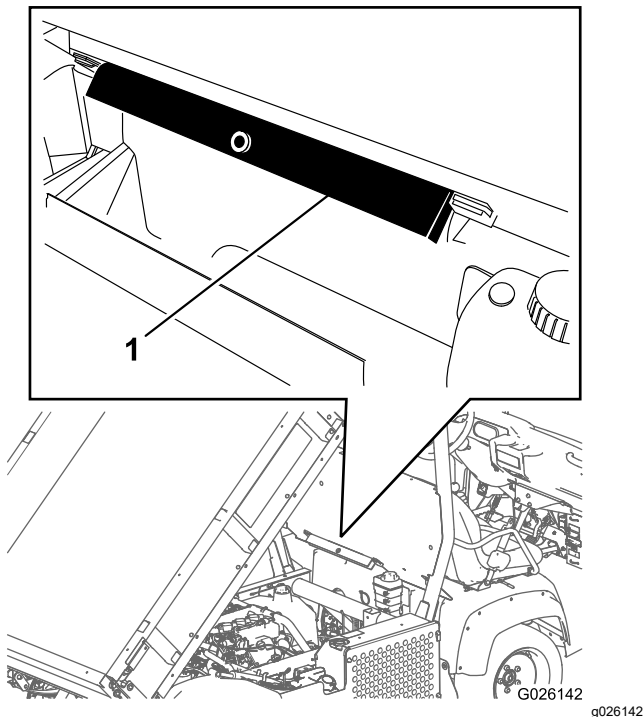

Figure 18
2. Remove the bed support from the storage brackets on the back of the ROPS panel (Figure 18).